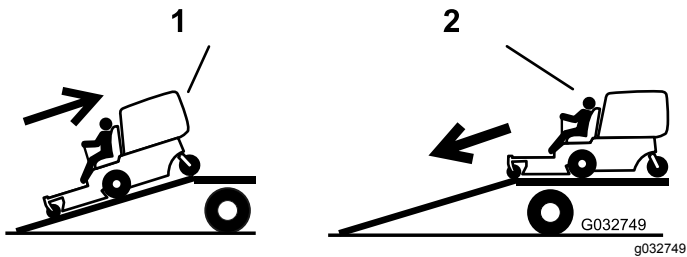

Figure 26
4. Back the machine up the ramp (Figure 26).
2. Drive the machine forward down the ramp (Figure 26).